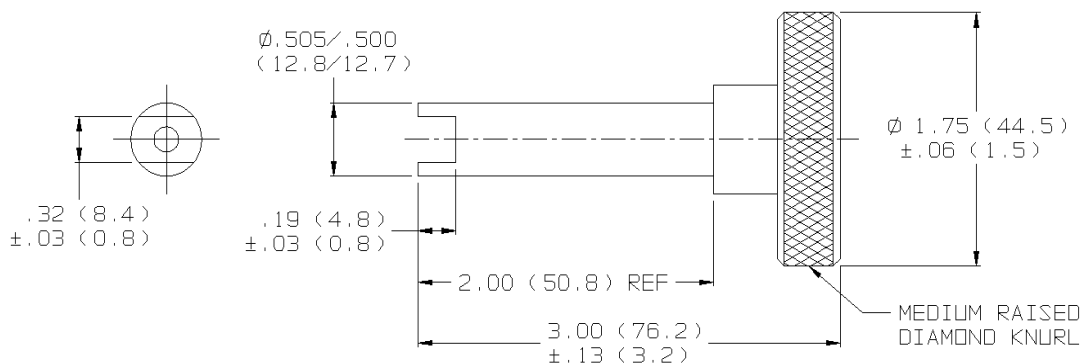

FIGURE 3 - DIMENSIONS AND CONFIGURATION
10. THE TOOL SHALL BE POSITIONED TO A PREDETERMINED TENSION SETTING AND PROVIDE A MEANS TO PERIODICALLY VERIFY AND ADJUST THE TOOL TENSION USING THE VERIFICATION INSPECTION GAGE DEFINED IN FIGURE 2 AND THE TENSION SETTING ADJUSTMENT KEY DEFINED IN FIGURE 3.